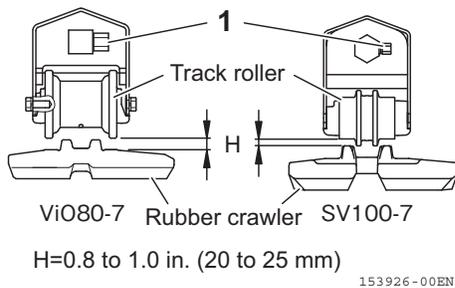

Fig. 8-16
- The high internal pressure of the grease can cause the nipple valve to eject. When you loosen the nipple valve (Fig. 8-16, 1), do not loosen it more than one turn.
- At this point, do not loosen any parts other than the nipple valve (Fig. 8-16, 1). Also, do not turn your face toward the nipple valve (Fig. 8-16, 1).